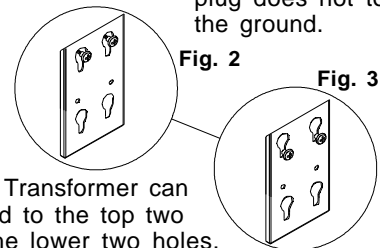

Fig. 2
- Attach the Transformer to the Transformer Mounting Bracket by inserting the two stud bolts on the transformer bracket into the two key holes on the Mounting Bracket as shown. Press the Transformer downward until it rests in place. (see Fig. 2 & Fig. 3).